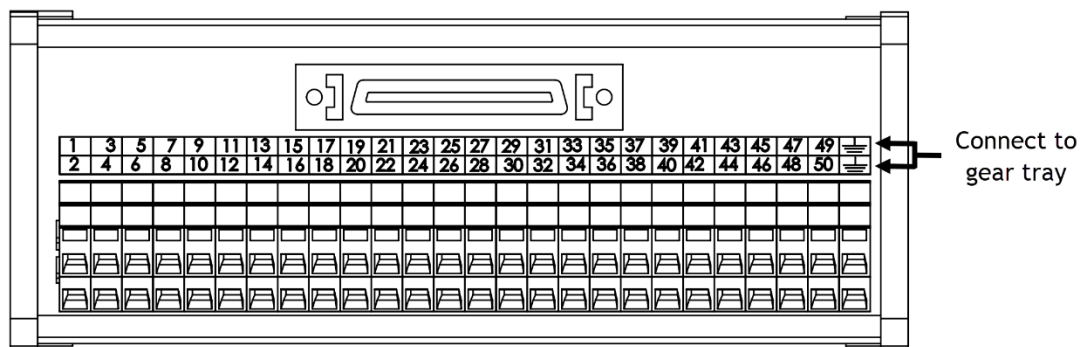

Figure 7-2 I/O Interface Breakout Module
- The 24V ground reference (pins 46 and 47) are exposed by two grounding terminals on the right of the module. Terminate these at the gear tray grounding point, using 0.5mm2 to 2.5mm2 conductor, refer to Figure 7-2.